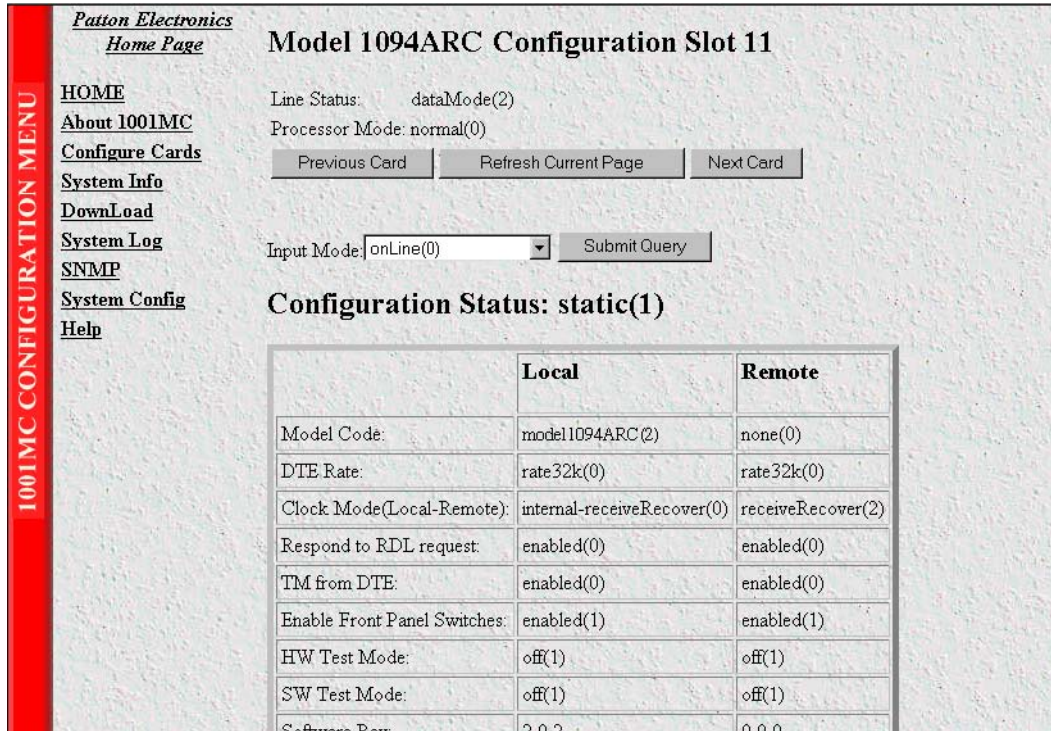
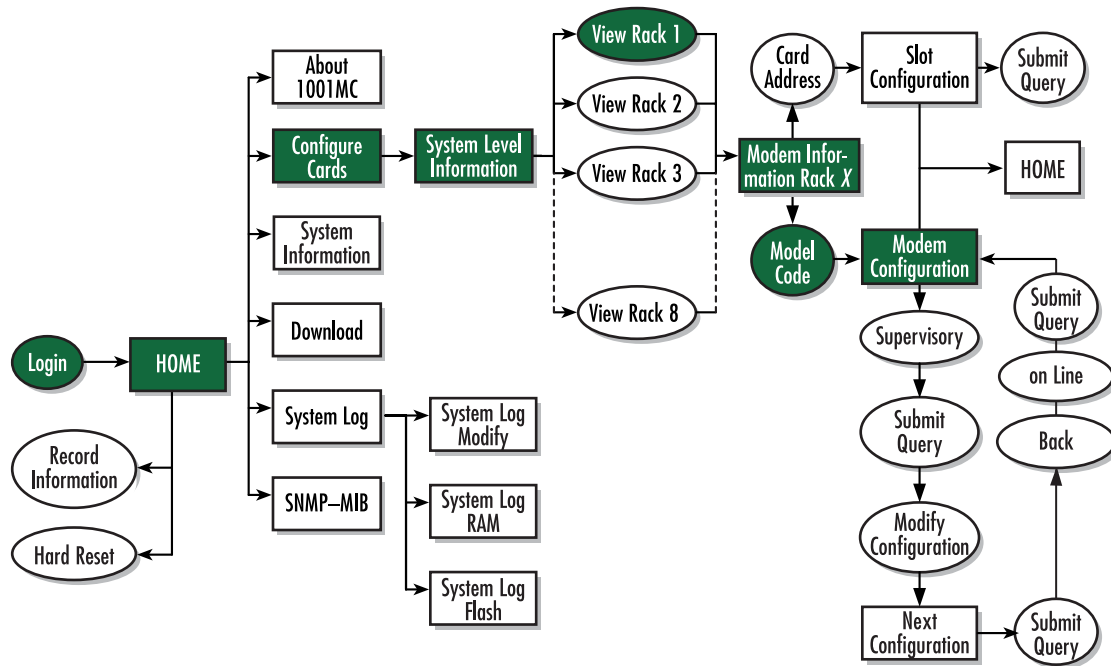

Figure 30. Model 1094 Configuration Slot page
Figure 31. Web page navigation to Model 1094 Configuration Slot page
The Model 1094 Configuration Slot page (see figure 30) enables you to make configuration changes to the Model 1094A and the remote CPE box. When the page displays, the unit is set to the *onLine* state and the current configuration is displayed.
Starting from the HOME page, to access the Model 1094 Configuration Slot page for the 1094ARC, click on the following links: *Configure Cards > View Rack 1 > Local\_Model\_Code* for the 1094ARC you wish to manage (in the example shown in figure 30, the 1094ARC was installed in slot 11). Figure 31 on page 73 shows the web page navigation required to get to this area of the system.
1. With the Model 1094 Configuration Slot page displayed, change the Input Mode (see figure 30) to super-VisoryMode. The Modify Configuration hyperlink will appear.